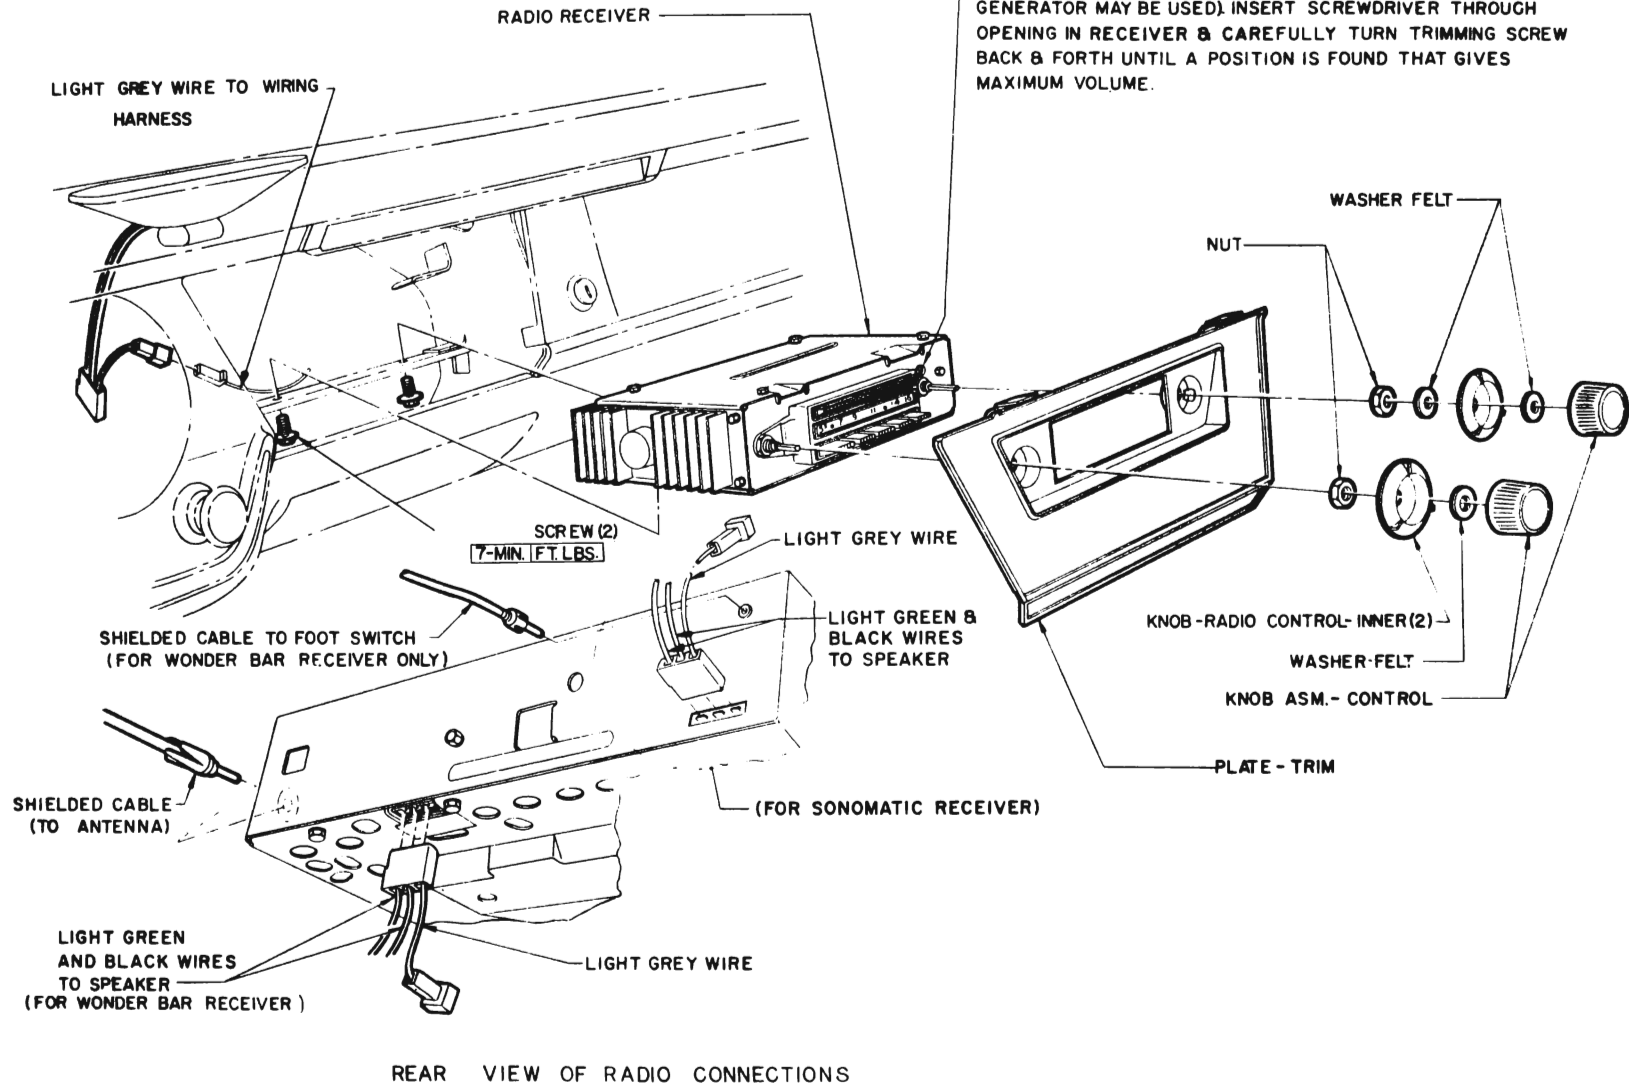

Figure 11-3—Radio Receiver Installation—4400-4600-4800 Series
(c) Insert a screwdriver in antenna trimmer and turn for maximum volume. See Figure 11-3.
1. Remove control knobs, felt washers, inner knobs and hex nuts from radio. See Figure 11-3.